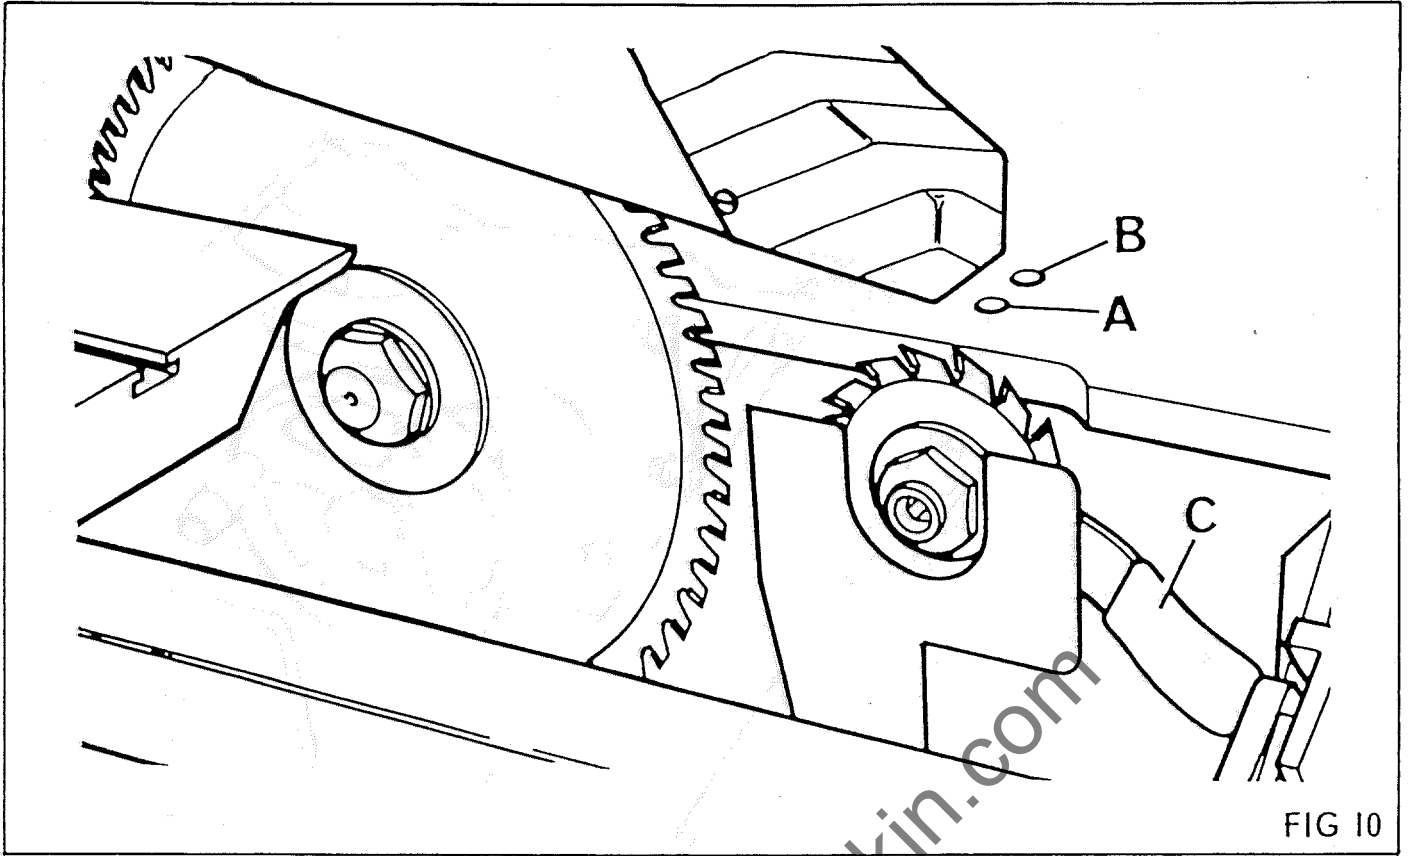

FIG 10
2. Lateral adjustment to scoring blade is by releasing 8mm socket head capscrew lock "A" in Fig. 10, (8mm allen key supplied) then adjust blade laterally by 8mm socket head capscrew "B". When set correctly, re-lock socket head capscrew "A".
3. Adjust scoring blade vertically by loosening 8mm socket head capscrew lock "A" in Fig. 10, then move blade vertically by lever "C". When set correctly, re-lock socket head capscrew "A". Correct vertical adjustment is attained when the scoring saw scores the full underside length of panel.